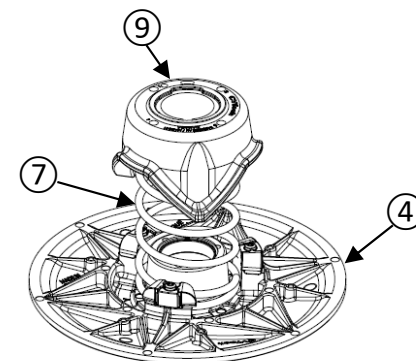

Figure 32
- Insert the spring ⑦ lugs into the proper cam ⑨ and sliding sheave ④ holes, at the same positions noted during the disassembly steps (figure 32).